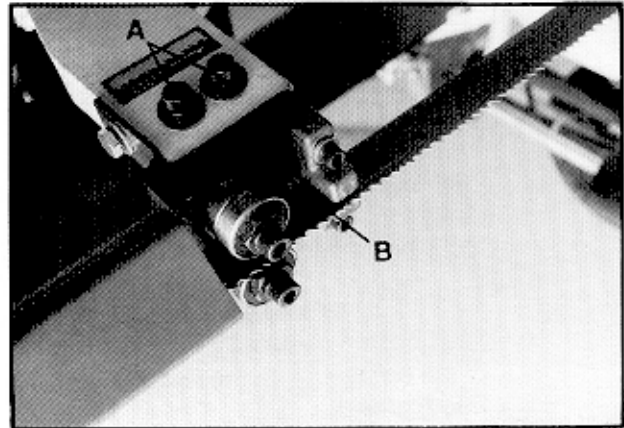
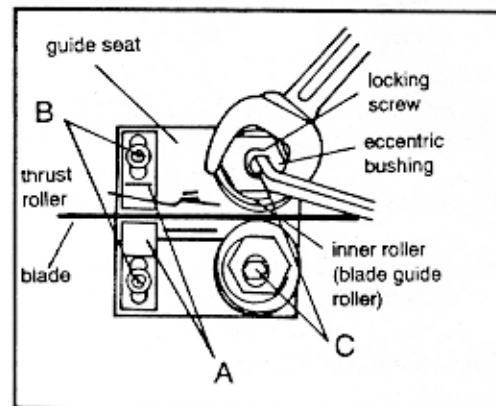

Fig. 10
Fig. 11
2. Loosen two hex socket cap screws (A, Fig. 10).
3. Move guide seat (B, Fig. 10) up or down until a clearance of .003" to .005" between back of blade and thrust roller is obtained.
4. Tighten two hex socket cap screws (A, Fig. 10).
2. Loosen blade guides (A, Fig. 11) by loosening screws (B, Fig. 10). Slide blade guides away from blade.
3. Loosen locking screws (C, Fig. 11) by using a hex wrench.
5. Tighten locking screws (C, Fig. 11).
6. Slide blade guides back into contact with blade and tighten screws (B, Fig. 11).